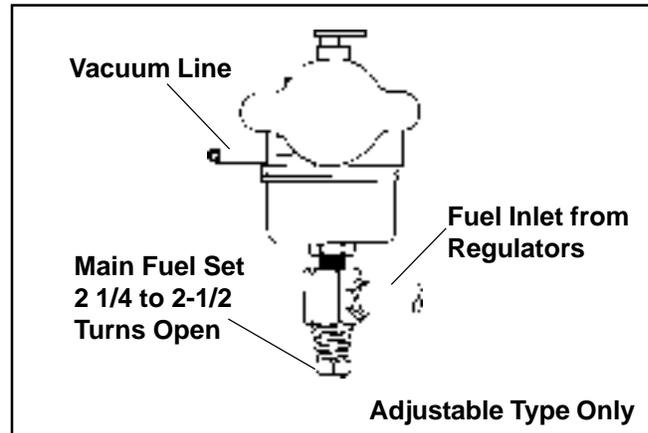

Figure 5-16. LPG Main Fuel Setting.\*
1. With the engine stopped, reset the main fuel setting by closing the adjusting screw until it bottoms then turn it 2 1/4 to 2 1/2 turns open (see Figure 5-16).\*